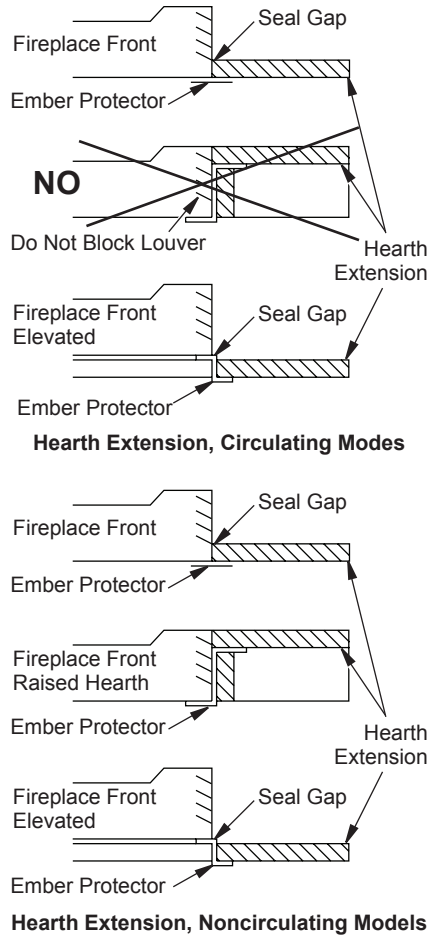

Figure 3 - Hearth Extension
Thermal conductivity "K" of materials can be obtained from manufacturer or supplier of noncombustible material. If hearth extension is to be covered, use noncombustible material such as tile, slate, brick, concrete, metal, glass, marble, stone, etc. Provide a means to prevent hearth extension from shifting and seal gap between fireplace frame and hearth extension with a noncombustible material (see Figure 3).
**⚠ WARNING: Hearth extension is to be installed only as shown in Figure 3.**